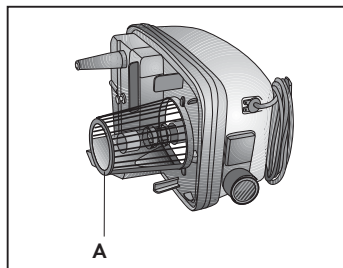

Fig. 24
- Empty the recovery tank (2).
- Activate the vacuum function using the vacuum button (19) and draw water through the accessories previously used for cleaning.
- Empty the recovery tank (2) and repeat the operation as necessary.
- Every time the bottom part of the appliance is cleaned, clean any solid residues off the outside of filter (A) **(Fig. 24).**